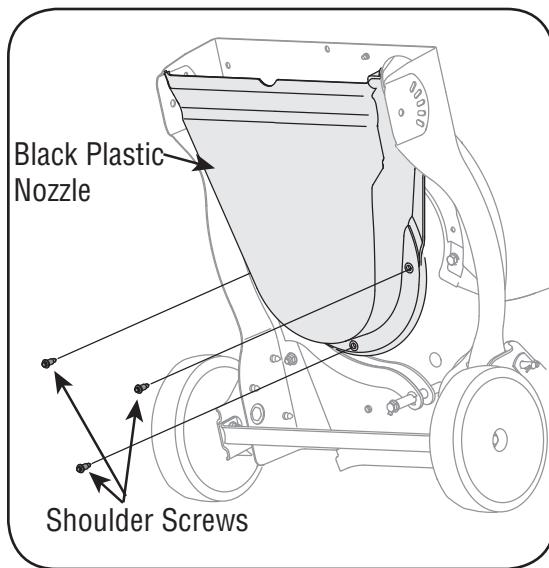

Figure 5-8
- Carefully tilt and support the unit up to provide access underneath to the nozzle mounting hardware and impeller. Remove the three shoulder bolts securing the black plastic lower flail housing to the lower housing. Refer to Figure 5-8.